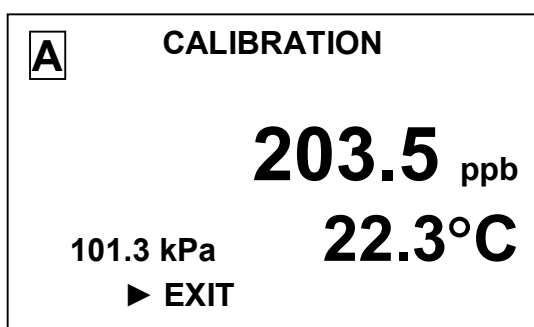

Fig. 2.16
- 6 After entering all digit press the "^{menu}enter" button. The display shown in Fig. 2.16 or 2.17 will appear with DHC indicated in ppb or in % vol.